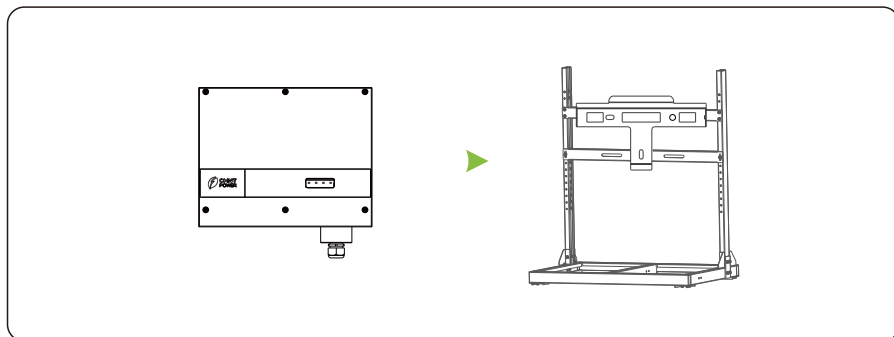

Figure 4.10 Mounting the inverter
Step 2 Mount the inverter on the rear panel and keep them aligned with each other, as shown in Figure 4.10.